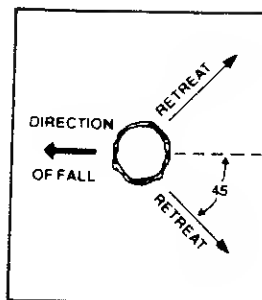

Figure 19
- Plan a clear retreat path to the rear and diagonal to the line of fall.** Figure 19.